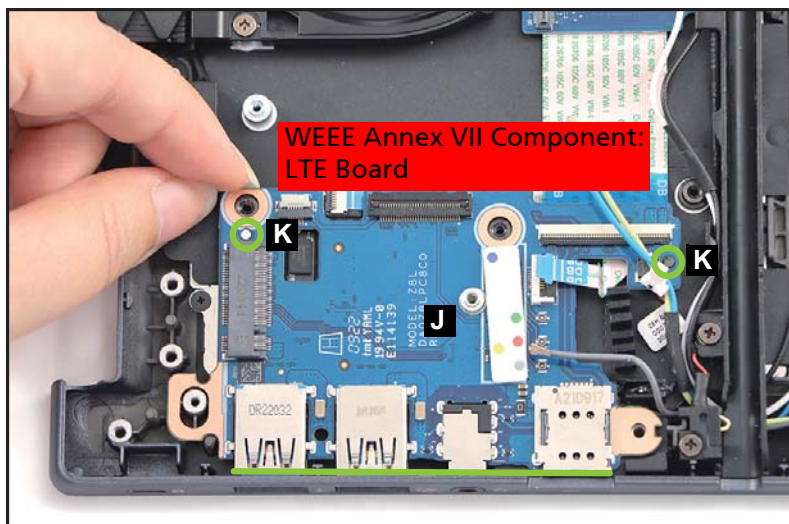

Figure 1-30. LTE Board Removal
8. Release the LTE board (J) from the I/O connectors slots and guide pins (K) on the top assembly (Figure 1-30). Then remove the LTE board.